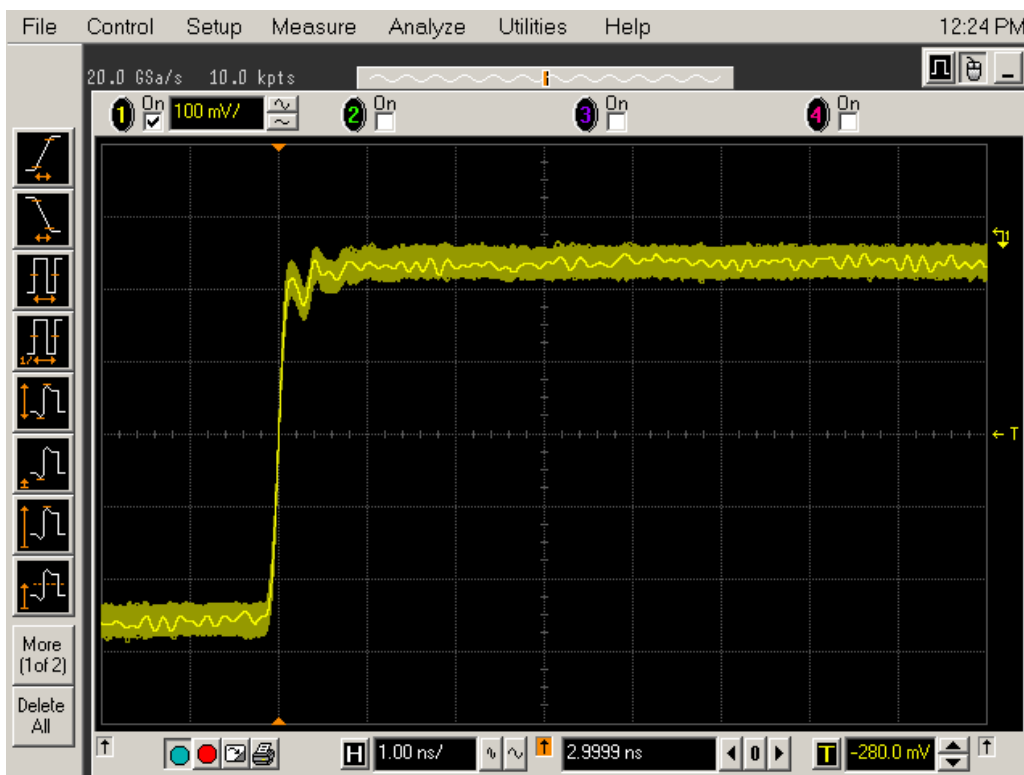

Figure 15 Good Connection Waveform Example
- 4 Set the horizontal position to approximately 3 ns. You should see a waveform similar to that in Figure 15 below.